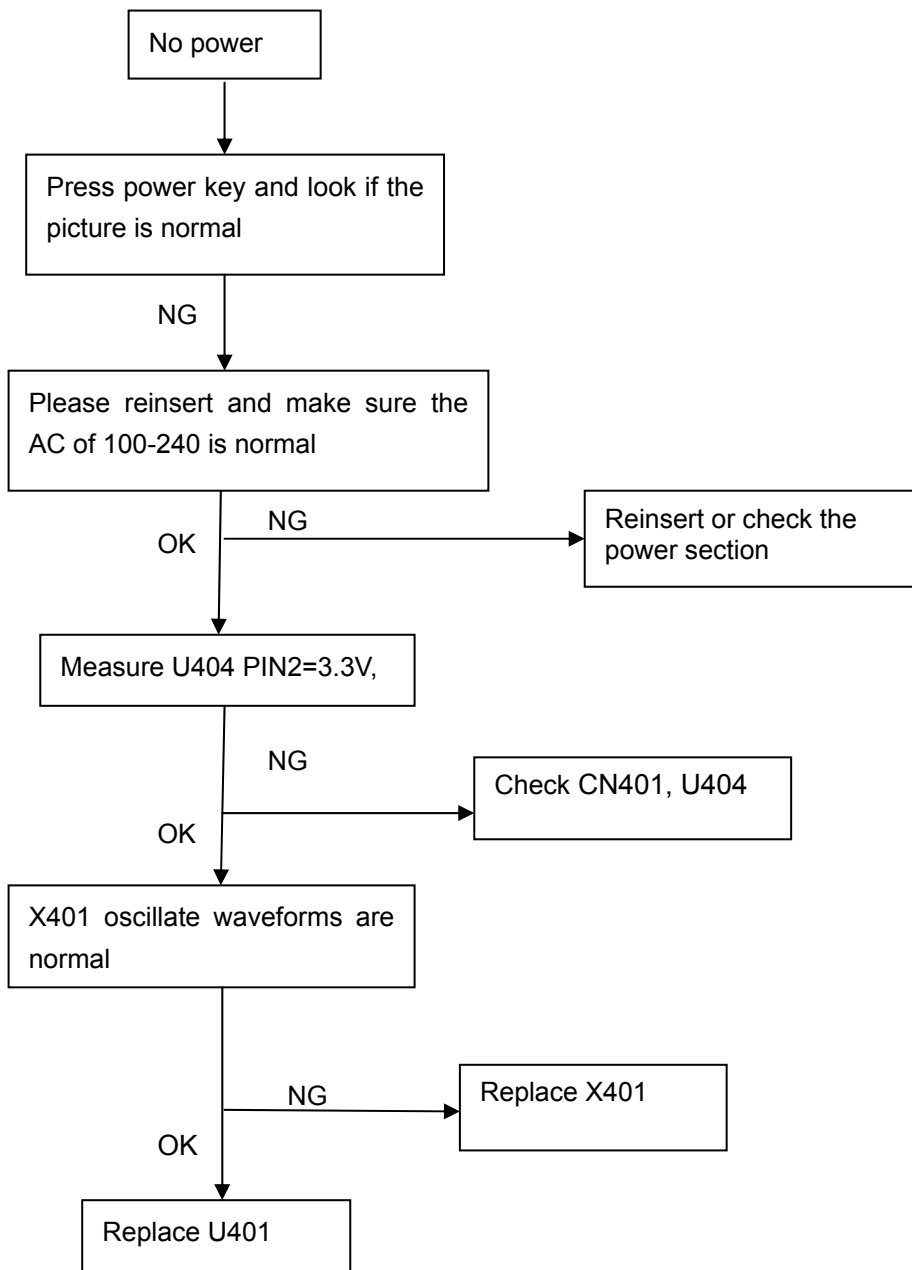

Fig 12
6. The monitor disassembly completely. (Fig 12)